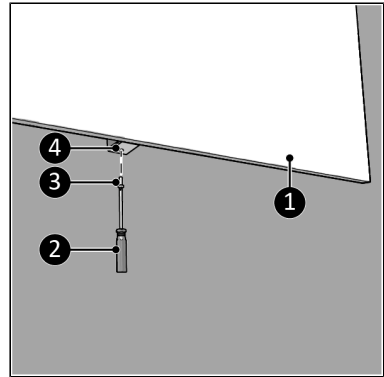

Figure 10.
13. Screw and tighten the device (Figure 10, pos. 1) with a small screw (Figure 10, pos. 3) to the wall bracket using a Phillips screwdriver (Figure 10, pos. 2).